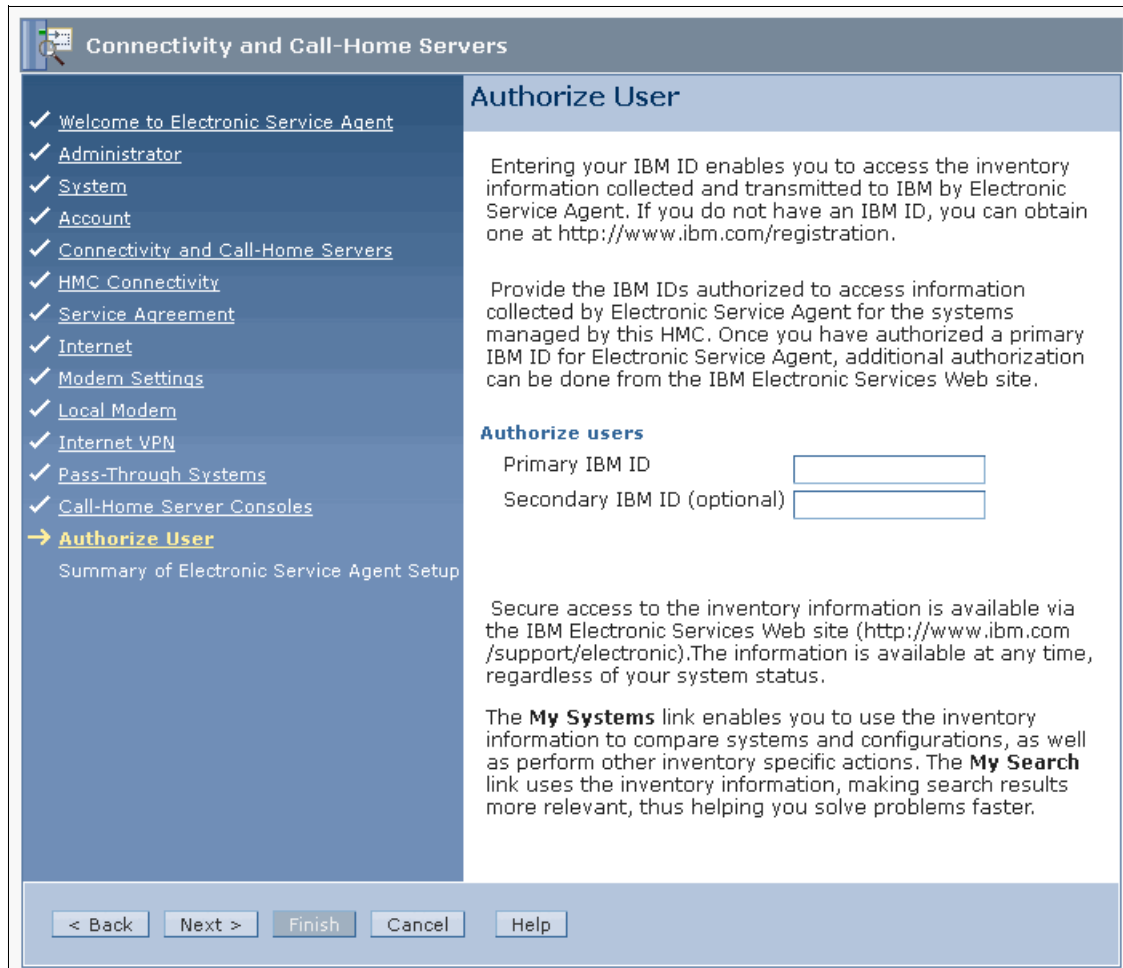

Figure 3-28 Authorize users for Electronic Service Agent
40. Click **Next** to continue. The authorize users for IBM Electronic Service Agent™ (ESA) panel is displayed, as shown in Figure 3-28.